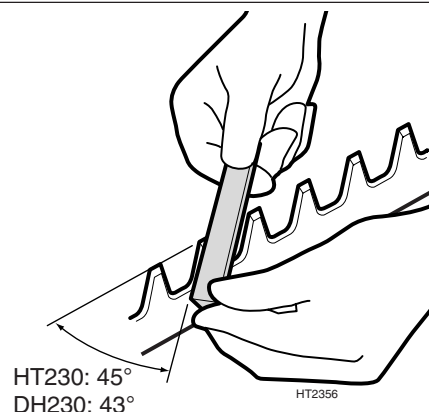

Figure 37. Grinding and sharpening the cutter bevels.
STEP 3. Use a rough grinding stone held at the angle shown (45°, HT230; 43°, DH230) to remove damage and restore the original bevel to the cutter edges. Use care to maintain the original shape and angle of the cutter teeth (Figure 37).